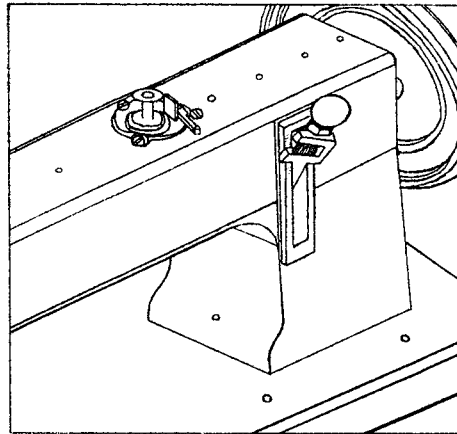

Fig.8
12、 ADJUSTMENT OF STITCH LENGTH AND FORWARD/BACKWARD SEWING (Fig.8)